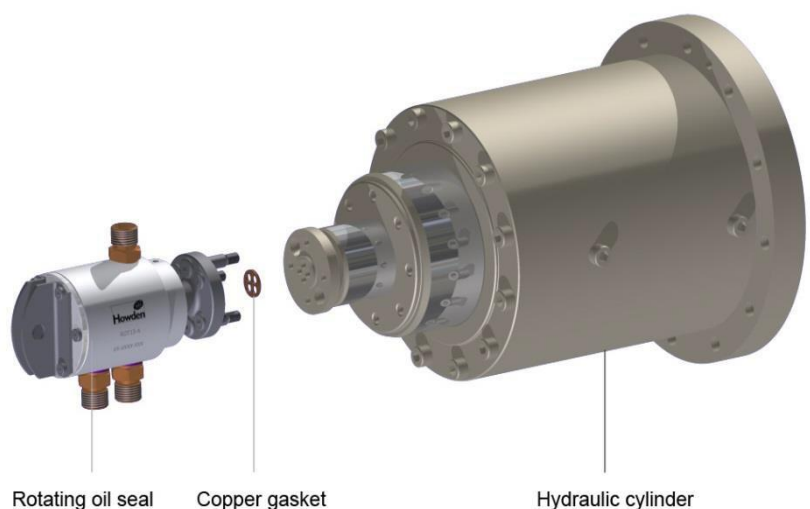

Figure 1
2. Mount the rotating oil seal on the pilot valve with the copper gasket between the shaft flange of the rotating seal and the pilot valve flange; see Figure 1.